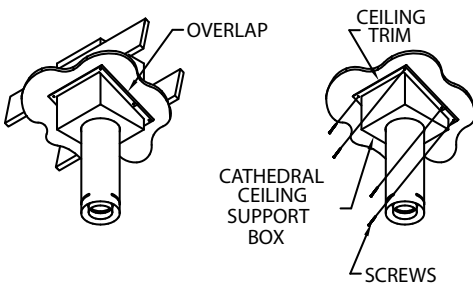

Figure 22
**Step 9.** Install the black Trim Collar around the outside of the Cathedral Ceiling Support Box. The two pieces of the Trim Collar slide over one another to allow for easy adjustment around the Support Box. Using the six (6) screws provided, secure the four corners and the overlapping sections of the Trim Collar to the underside of ceiling. You may want to pre-drill the holes for the overlapped sections for ease of installation (**Fig. 22**).